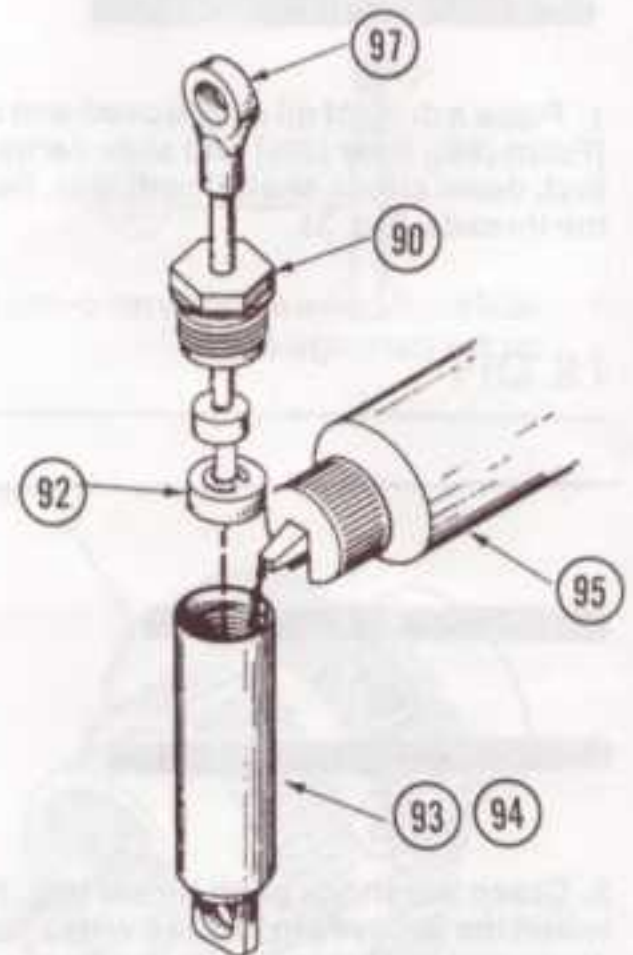

FIG. 41
7. Clean out shock body [Front (93), Rear (94)] with a clean, soft, lint free cloth. Fig. 41.
* NOTE: Front shock body (93) is shorter than rear shock body (94).
8. Fill shock body (93), (94) with shock fluid (95) up to the bottom of the threads. Fig. 41.
9. Insert shaft assembly with cartridge (90) against the shock mount (97). Slowly tighten the cartridge, allowing oil to bleed out as you do so, until finger tight. Secure by turning with pliers approximately 1/8 turn additional. Fig 41.
* NOTE: Be sure to match the front shafts (88) with the front bodies (93), and the rear shafts (89) with the rear bodies (94).
10. This should properly bleed the shock. If shock won't compress all the way, loosen cartridge (90) just slightly and allow more oil to bleed out. Be careful not to over bleed the shock as too much air may get into the shock.
* NOTE: If leaking persists around the outside, tighten cartridge (90) some more.
11. Repeat steps 7 - 10 for all four shocks. Fig. 41.